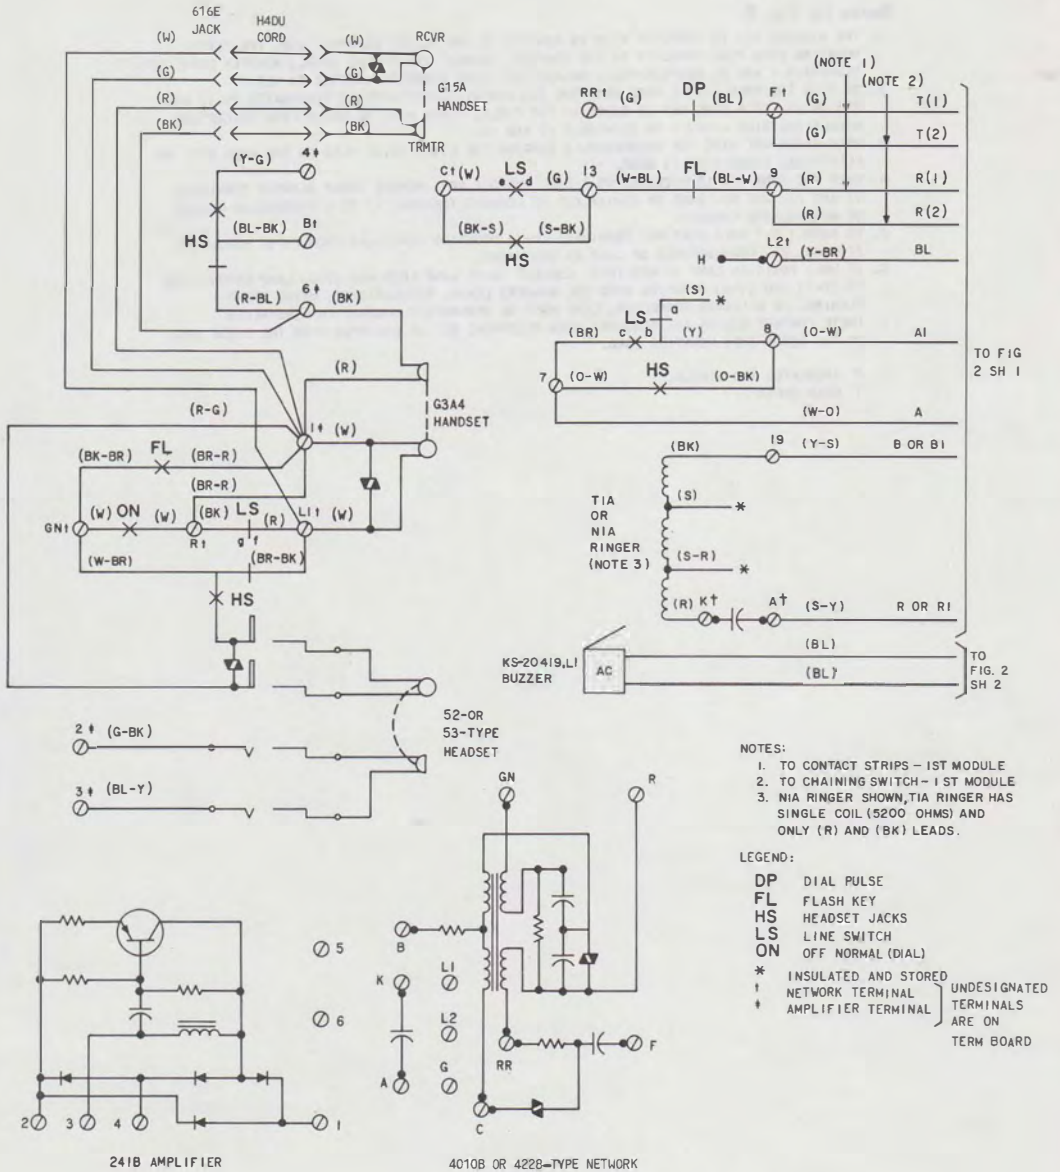

Fig. 1—636CA, CAM and 637DA, DAM Telephone Set, Connections
- Add information on 636CAM and 637DAM (modular) telephone sets, Fig. 1